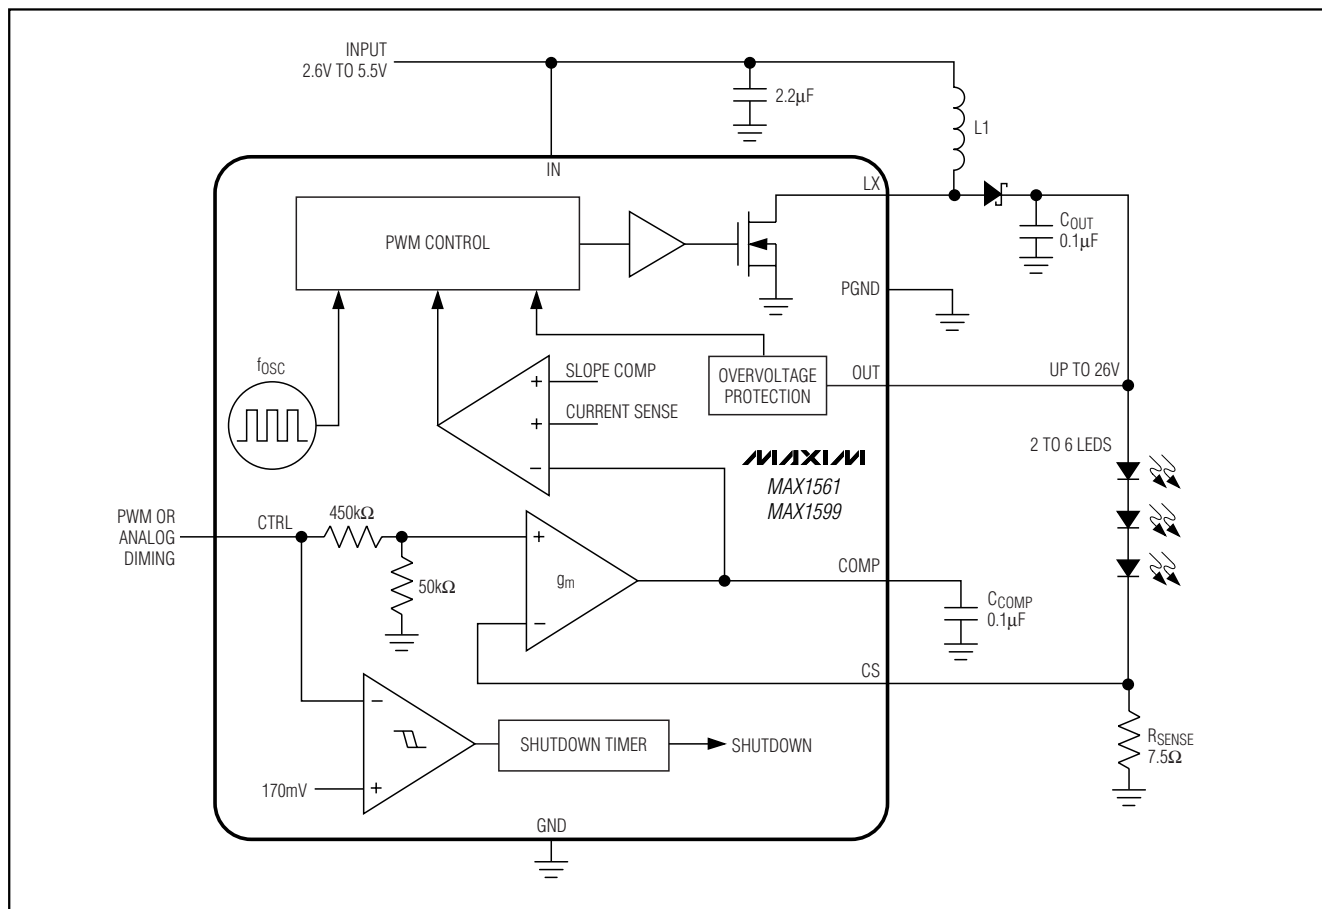

Figure 1. Functional Diagram
( $V_{IN} = 3V$ ,  $V_{OUT} = 20V$ ,  $C_{OUT} = 0.1\mu F$ ,  $C_{COMP} = 0.15\mu F$ ,  $R_{SENSE} = 7.5\Omega$ ,  $V_{CTRL} = 1.5V$ , Figure 1,  $T_A = 0^\circ C$  to  $+85^\circ C$ , unless otherwise noted. Typical values are at  $T_A = +25^\circ C$ .)
( $V_{IN} = 3V$ ,  $V_{OUT} = 20V$ ,  $C_{OUT} = 0.1\mu F$ ,  $C_{COMP} = 0.15\mu F$ ,  $R_{SENSE} = 7.5\Omega$ ,  $V_{CTRL} = 1.5V$ , Figure 1,  $T_A = -40^\circ C$  to  $+85^\circ C$ , unless otherwise noted.) (Note 3)
**Note 1:**  $V_{D1}$  is the diode forward-voltage drop of diode D1 in Figure 1.
(Circuit of Figure 1,  $V_{IN} = 3.6V$ ,  $I_{LED} = 15mA$ ,  $L_1 = 22\mu H$ ,  $C_{IN} = 2.2\mu F$ ,  $C_{OUT} = 0.1\mu F$ ,  $C_{COMP} = 0.1\mu F$ ,  $R_{SENSE} = 7.5\Omega$ , 4 LEDs,  $T_A = +25^\circ C$ , unless otherwise noted.)
(Circuit of Figure 1,  $V_{IN} = 3.6V$ ,  $I_{LED} = 15mA$ ,  $L1 = 22\mu H$ ,  $C_{IN} = 2.2\mu F$ ,  $C_{OUT} = 0.1\mu F$ ,  $C_{COMP} = 0.1\mu F$ ,  $R_{SENSE} = 7.5\Omega$ , 4 LEDs,  $T_A = +25^\circ C$ , unless otherwise noted.)